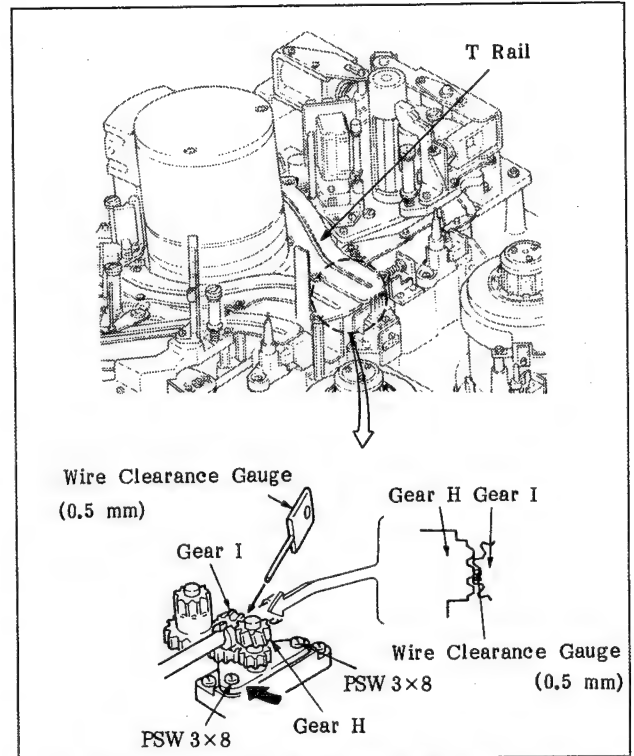

Fig. 6-60. Adjustment of the Drive Shaft and Gear H
- c. Insert the 0.5 mm diameter wire clearance gauge between gear I and gear H, as shown in Figure 6-60. Then, tighten the two screws firmly while pushing gear H in the direction of the black arrow. Remove the wire clearance, and check that the same wire clearance gauge (0.5 mm dia.) can be inserted in the same position smoothly.